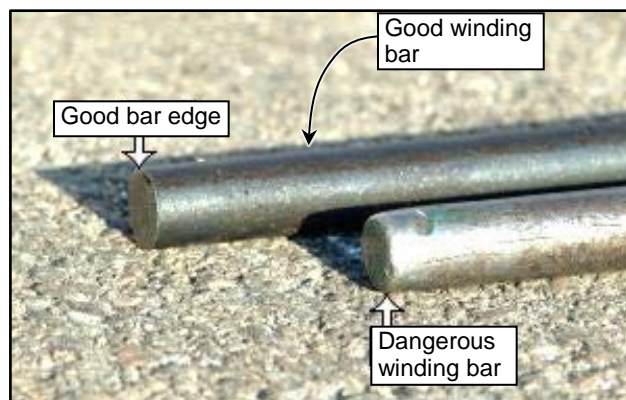

Figure 81
4. Your winding bars must be at least 18" long and fit properly into the winding cone. The edges should be sharp, cut at 90 degrees, not rounded. (See Figure 81)